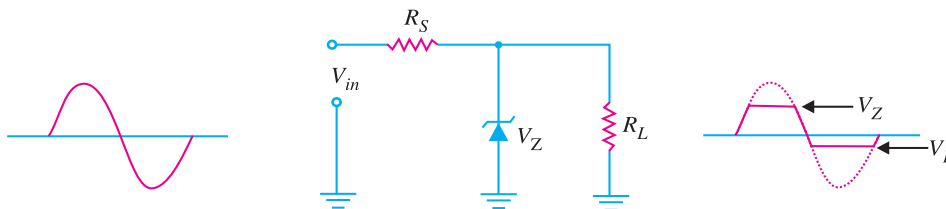

Fig. 18.42
**Example 18.16.** Fig. 18.42 shows a zener shunt clipper with sine wave input. Determine the output waveform.
When the input signal in Fig. 18.42 goes positive, the zener is reverse biased. Therefore, the zener diode will remain OFF until the value of  $V_{in}$  reaches the value of  $V_Z$ . At that time, the zener diode will turn ON, clipping the input signal. As long as  $V_{in}$  is greater than  $V_Z$ , the zener will remain ON and the output voltage is